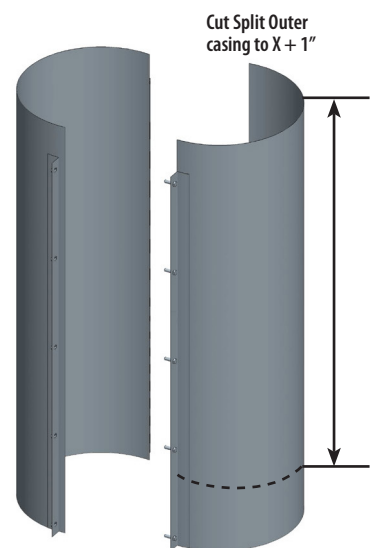

Figure 35b - Step 3 -
Step 3 - Cut the split outer casing on the opposite side of the flanged half at dimension X plus 1". See Figure 35b.